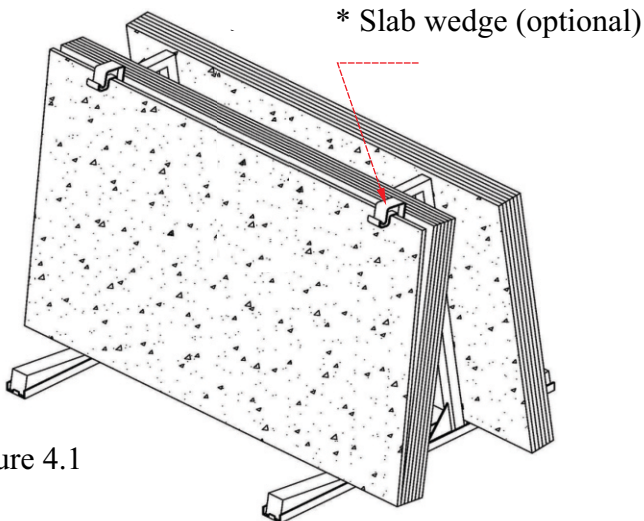

Figure 4.1
Step 4: Use slab wedges* to make a gap between the outer slab and the inner slab (Figure 4.1).